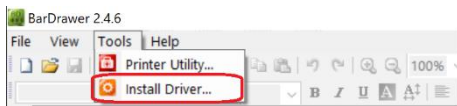

Figure 1
4. Click Install Driver under Tools (figure 1 below). Then install printer driver according to the wizard.